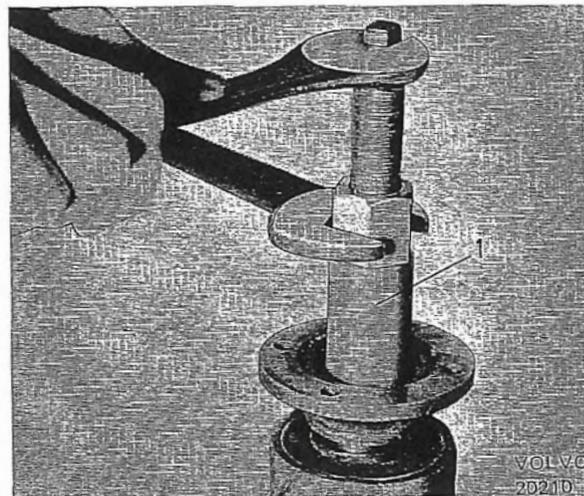

Fig. 4-134. Installing flange
4. Press on the flange with the help of press tool 1845, see Fig. 4-134. Fit the washer and nut. Tighten the nut to a tightening torque of 280-300 Nm (200-220 lbft).